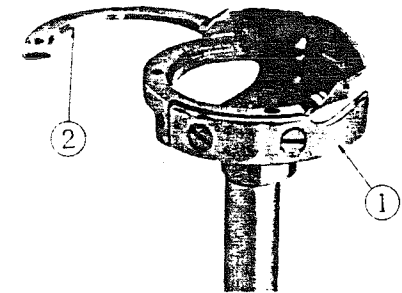

Fig. 22
The needle guide (Fig. 22 ①) at the bottom of the sewing hook prevents the blade tip from any damages which might occur when the needle, upon piercing the cloth, might bend itself and hit the blade point of the sewing hook.